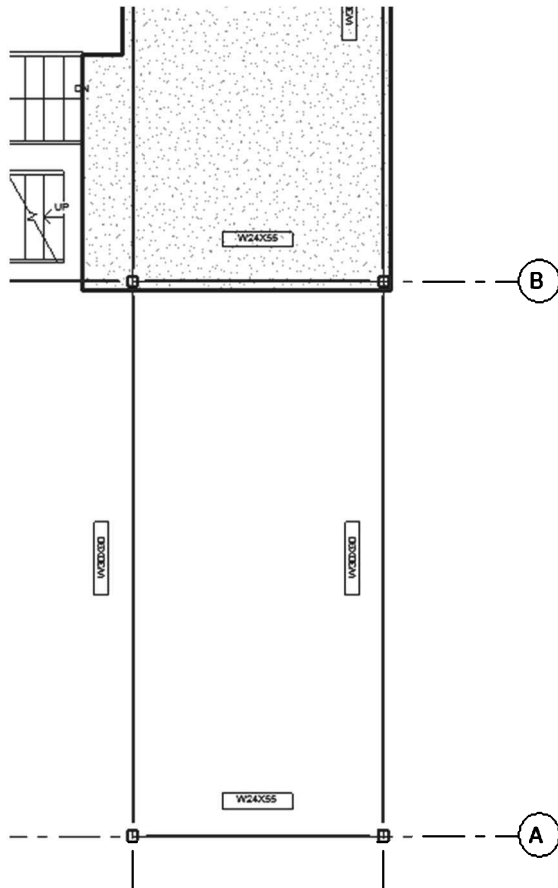

FIGURE 8-4.5 Revised floor boundary
21. Modify the floor boundary so it stops at Grid **B**, as shown in Figure 8-4.5.